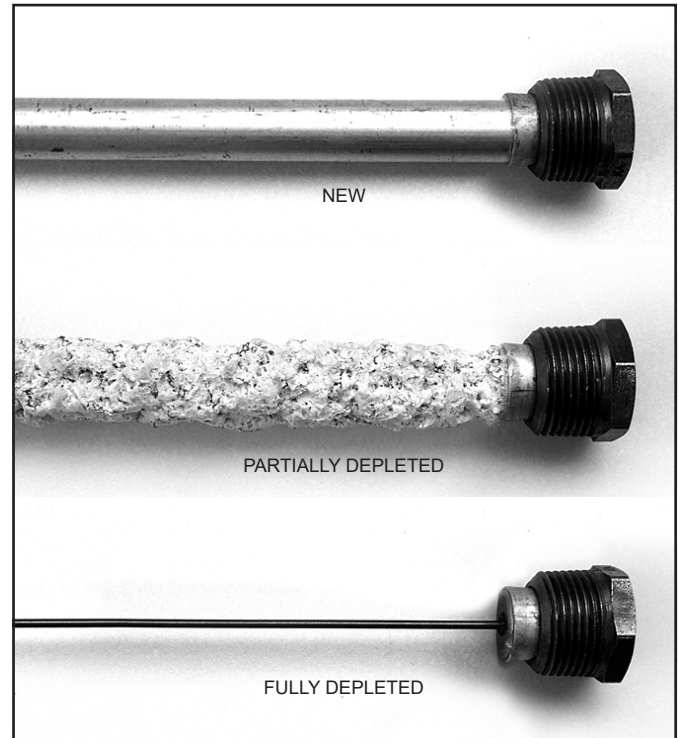

Figure 52.
**Anode Rod.** The anode rod is a sacrificial metal rod that helps avoid corrosion and premature failure (leaks) in the tank. The anode rod is a consumable item. Inspect the anode rod after the first six months of operation when you drain and flush the tank. Replace the anode rod if it is substantially worn out or depleted (see Figure 52). Thereafter, inspect the anode rod annually or more frequently if needed. If you use a water softener, your anode rod will deplete faster than normal. Inspect the anode rod more frequently, replacing the anode rod if it is depleted. Once the anode rod is depleted, the tank will start to corrode, eventually developing a leak. Obtain a new anode rod from your local plumbing supplier or have a qualified person replace it. (Anode rods are a consumable item and are not covered under warranty).